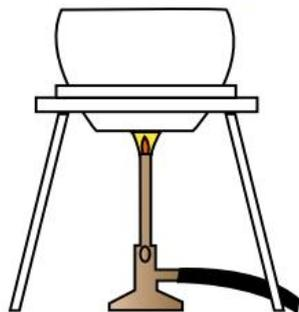

Figure 16.1
- Carefully heat the crucible and its contents with the lid off as shown in Figure 16.1 until the magnesium begins to glow. Immediately replace the lid and heat the crucible strongly.